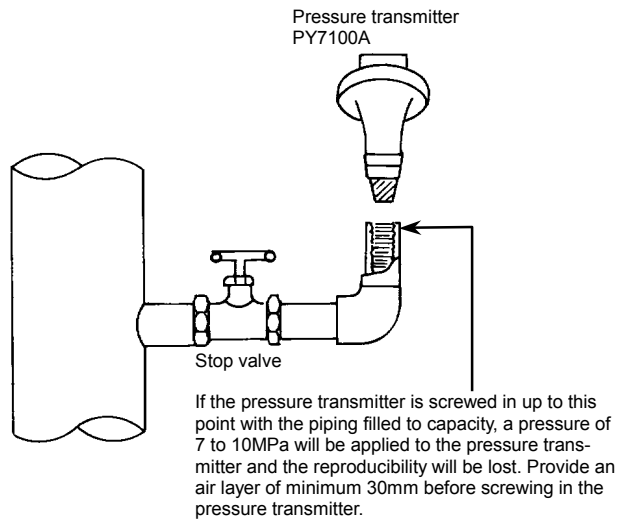

Fig.3 Notes on installation
Prepare a pressure outlet on the piping, and mount stop valves and R1/2 female screws as shown in Fig. 3. Screw in the pressure transmitter unit next.
- Output signals can be checked across the (+) terminal and terminal CHECK by using an ammeter of 10 or less. (See Fig. 3)